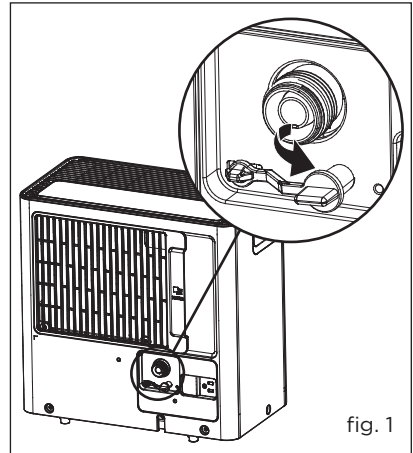

fig. 1
- Remove the water plug from the back drain outlet of the unit (fig.1)